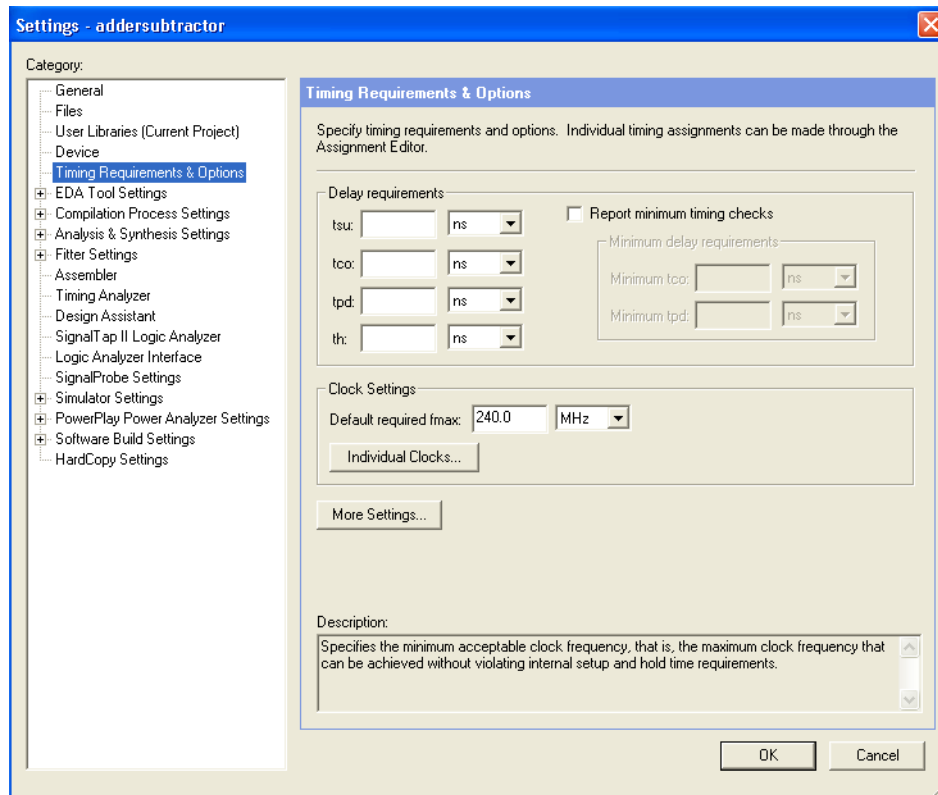

Figure 31: Setting the timing constraints.
1. Click **Assignments > Timing Settings** to reach the window in Figure 31. Here, it is possible to indicate the required values of various design parameters and the desired performance of the circuit. Consider the *f_{max}* indicator. So far, we have not specified the desired value of *f_{max}*. The compilation in Section 4 produced the *f_{max}* of 217.63 MHz. Suppose that we need a circuit that can operate at a clock frequency of 240 MHz. Specify this value as the default required *f_{max}* as shown in Figure 31, and click **OK**. Note that other parameters, such as *t_{su}*, *t_{co}*, and *t_h* can be specified in this window.